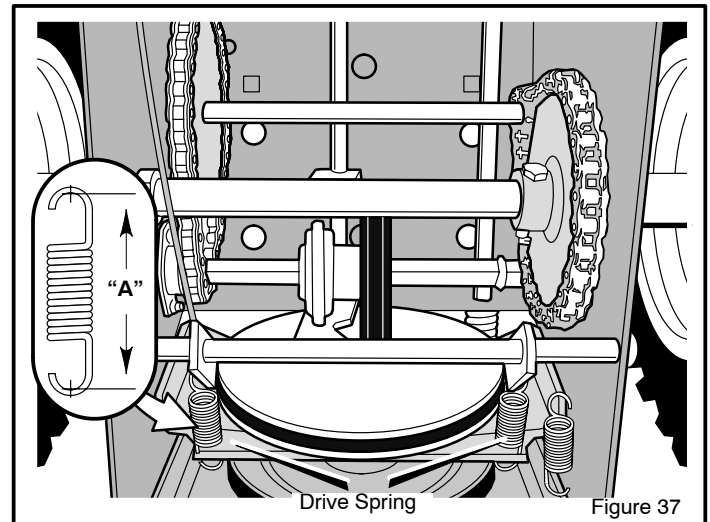

Figure 37
9. To check the adjustment, depress the drive lever and check the length of the **drive spring** (see Figure 37). In correct adjustment, the length of the **drive spring** is minimum 3 inches (76 mm.) maximum 3-3/8 inches (85 mm.).